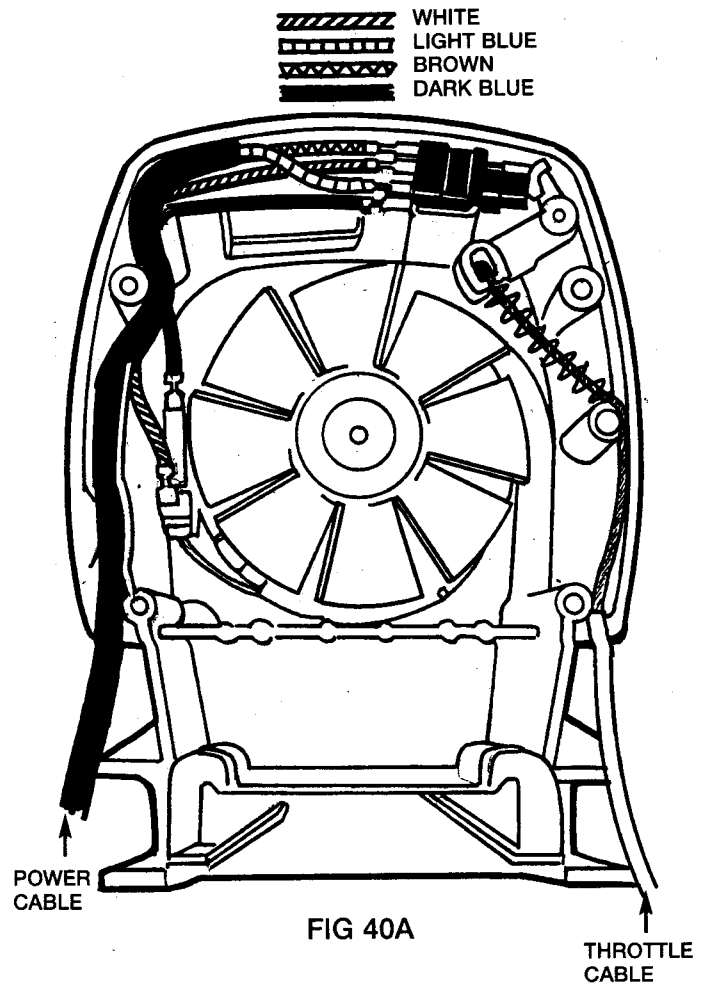

FIG 40A
3. At motor end, lift cable out of casing reverse procedure to install (See Fig. 40A).
1. Remove 2 wires blue/white from motor by carefully pulling up motor tags "A" (Fig. 40A). Remove wiring loom assembly.